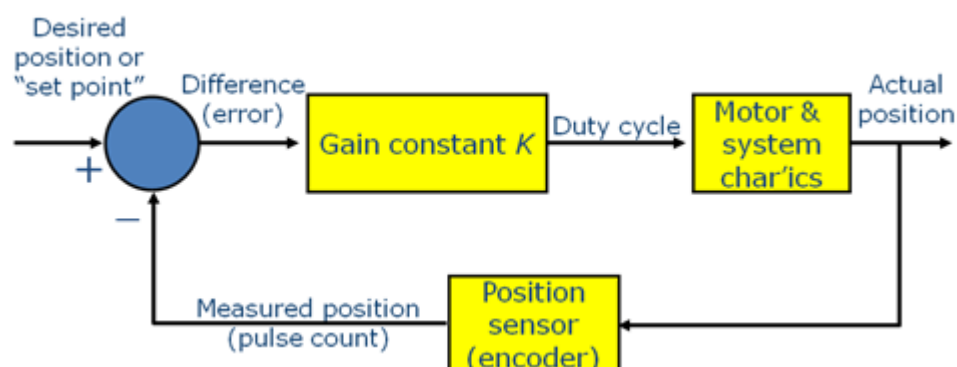

Figure 14 Closed loop proportional control
- Proportional Control: The control loop is shown in Figure 14.